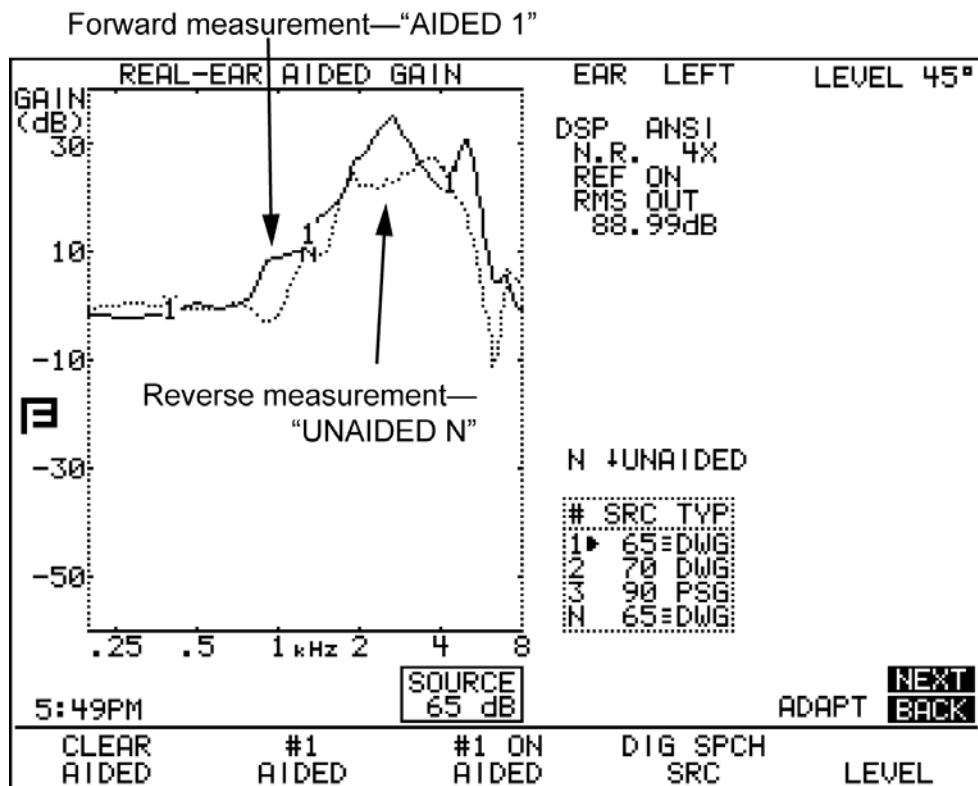

Figure 4.4.5B—"Forward" and "reverse" directional aid measurements in the Real-ear Aided Gain screen
12. Press [START/STOP] to take the measurement. Press [START/STOP] again to stop the signal once the measurement has stabilized. This curve is the "reverse" measurement. See Figure 4.4.5B.